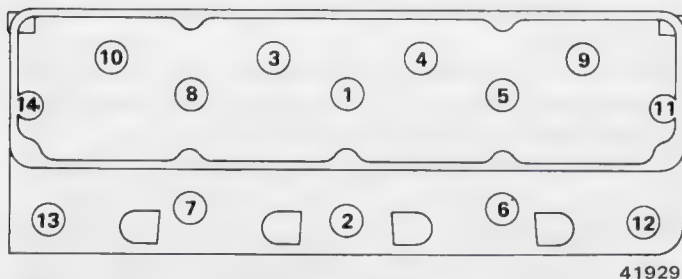

Fig. 1B-146 Cylinder Head Torque Sequence
(1) Apply even coat of non-hardening sealing compound to both sides of replacement head gasket.
(2) Position gasket on block with stamped word TOP facing upward.
(3) Install cylinder head and gaskets.
(4) Tighten cylinder head capscrews evenly to 80 foot-pounds (108 Nm) torque following the sequence outlined in figure 1B-146. Then follow the sequence again and tighten screws to 110 foot-pounds (149 Nm) torque.